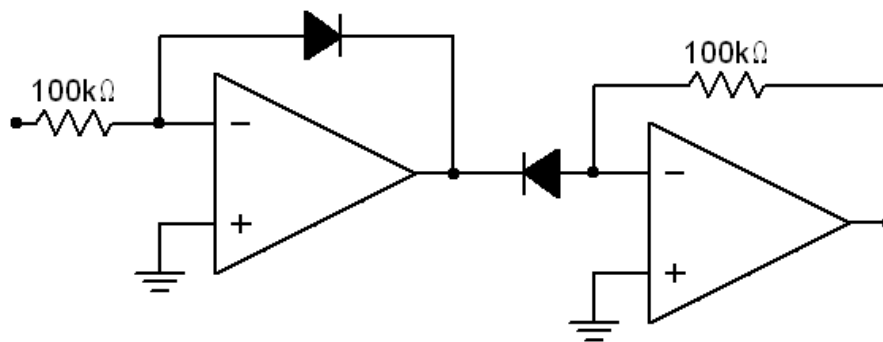

Fig 4
6. Reverse the polarity of diode in the antilog amplifier of fig 4.